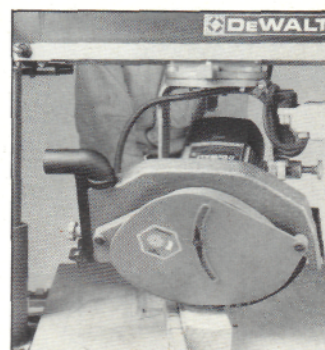

Fig. 36
11.7 Coving/Hollowing (Fig. 36)
By tilting the motor with the blade rotating in the work, you can produce many shapes not possible with conventional sawing systems. In Fig. 36, a shallow concave profile is being cut. Having tilted the blade and rotated the motor yoke beneath the arm, the material is fed through as for ripping. By changing the angle combinations, an infinite variety of widths and pitches of channel can be made.